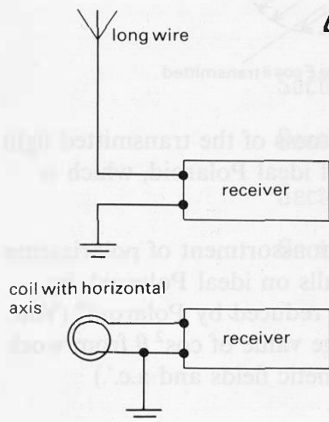

Figure J141
45(R) A medium wave radio receiver may have two kinds of aerial, as shown in figure J141: either a long straight wire or a coil. (The coil is actually wound on a ferrite rod and is usually enclosed within the receiver.)